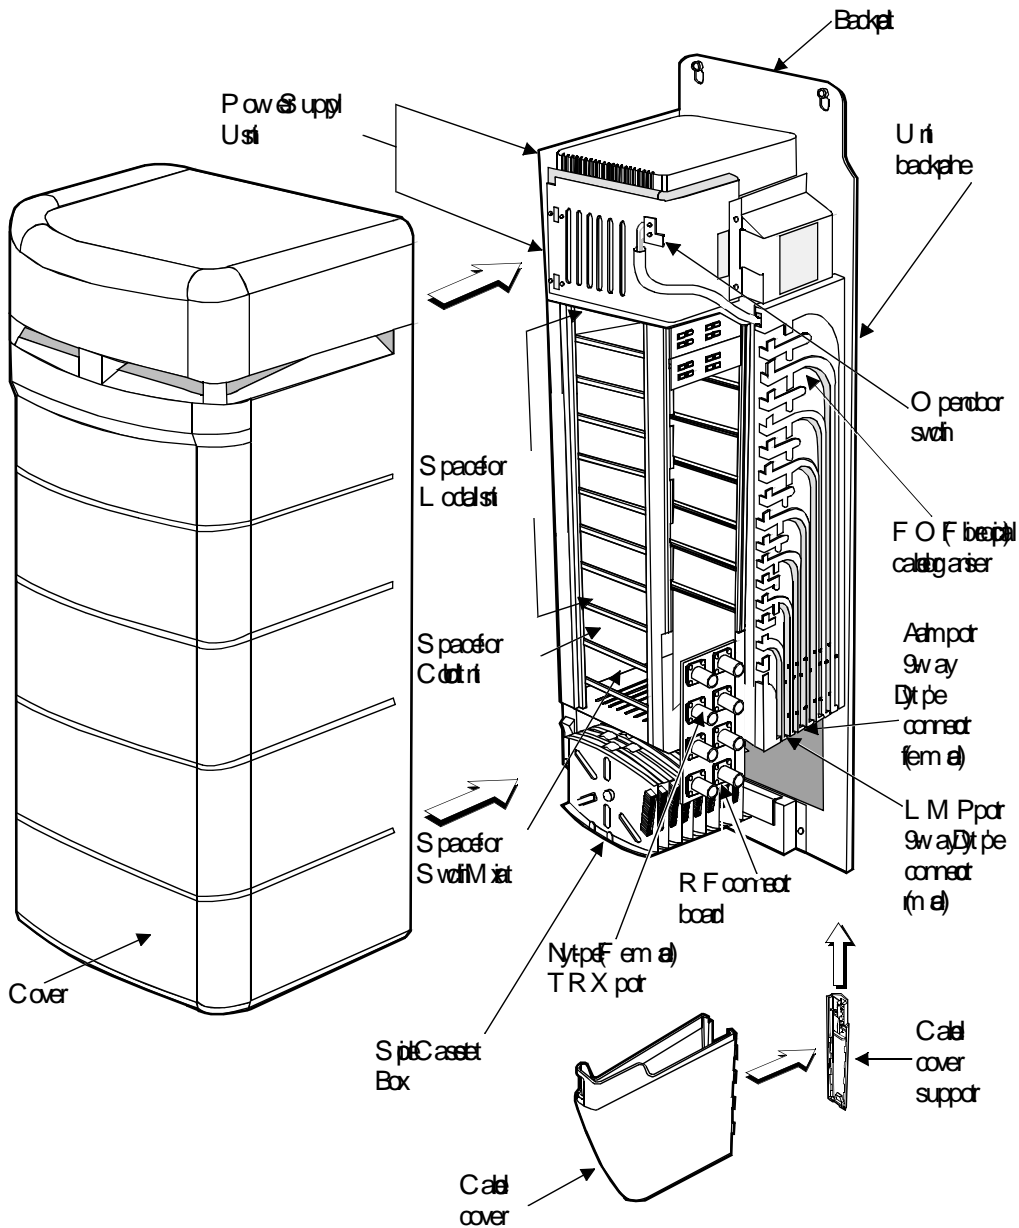

Figure 2 Multi-service cabinet cover and cable cover
4. Install the mounting frame from the upper anchor screw hole in Figure 2 onto the wall. Use appropriate anchor screws. Use the screws (6.3 x 38) supplied by Nokia, use a 6 mm hexagon key to tighten.